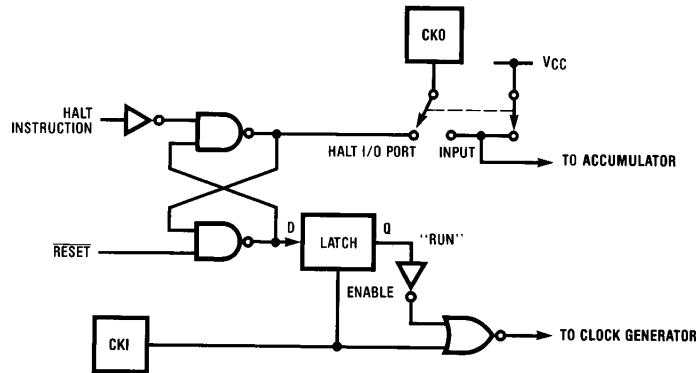

FIGURE 9B. Halt Mode — One-Pin Oscillator
b. One-pin oscillator — (RC or external). See *Figure 9B*.